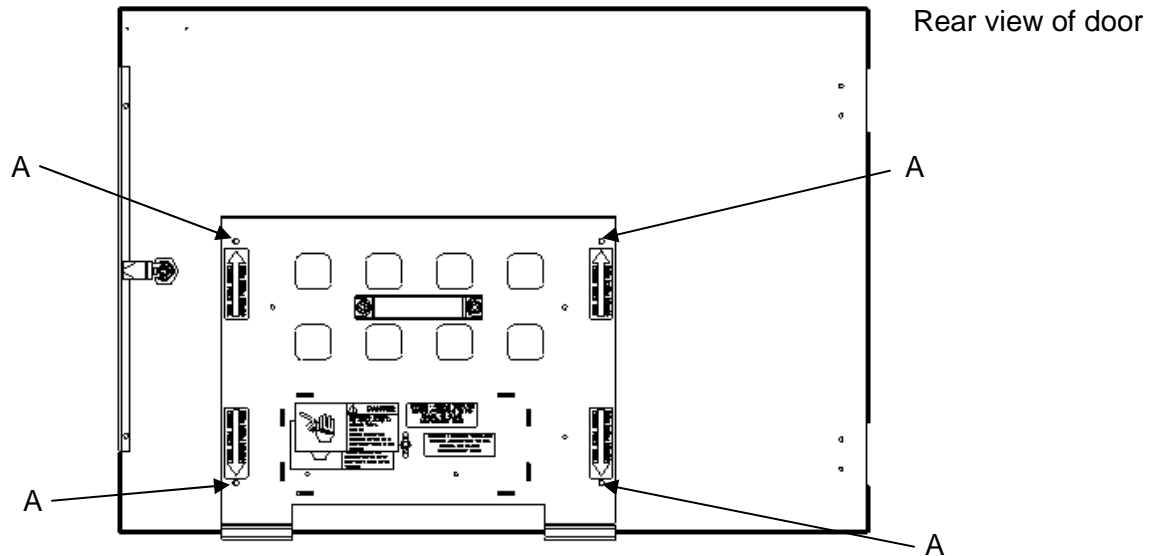

Fig. 3.4 Center Punch locations
- Using the transfer punch provided with the template, center punch the four hole locations. See Fig 3.4, item A.